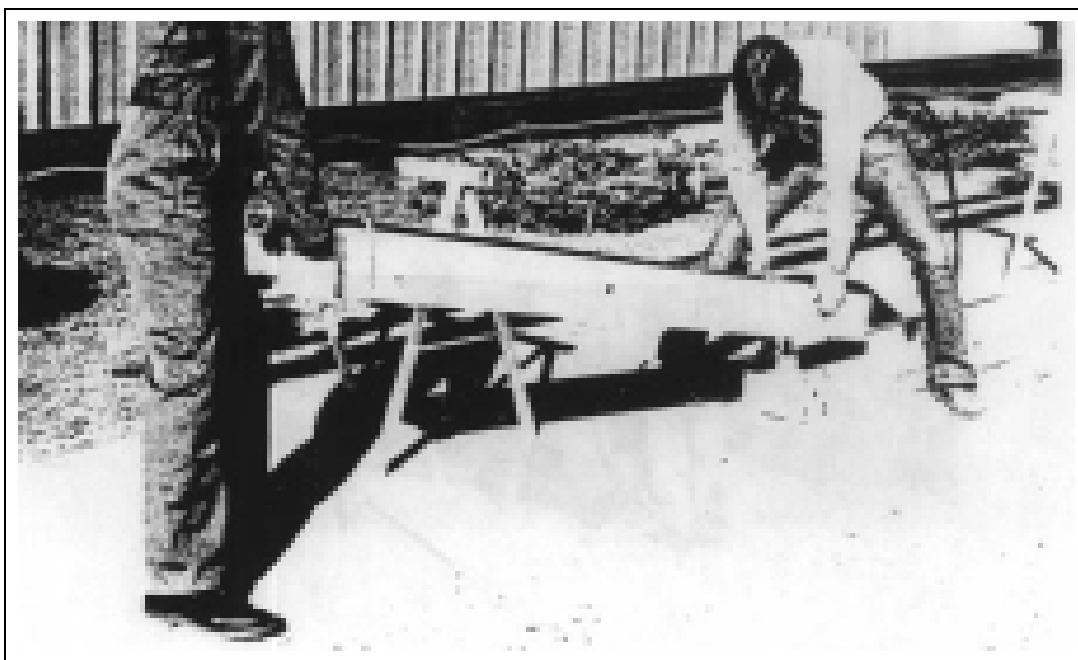

Figure 4H
12. **For 6 Auger Units Only:** The 6 auger trolley comes in two (2) sections; one 4 auger section plus an extension. First remove the bolts holding the center gearbox on the 4 auger section. (*See Figure 4H or Page 60.*) Then, place 2 auger section over 4 auger section and replace gearbox bolts. At this time, install two (2) additional 5/16" x 3/4" hex head bolts, lock washers and nuts in the lapped section. Be sure bolts are tightened securely. Cut loose extension drive shaft. (*See Figure 4H.*)